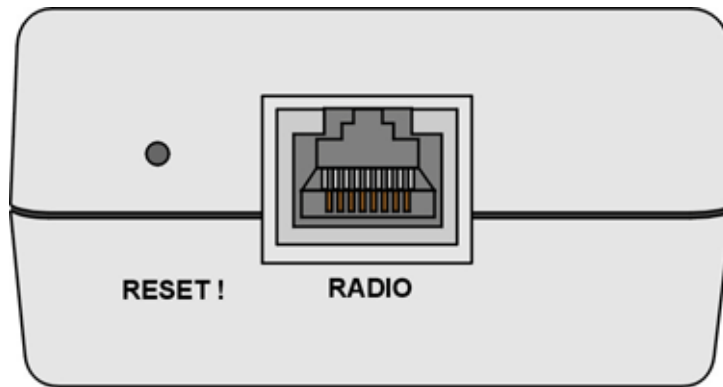

Figure 2-9: CPE-IDU-1D Front Panel
- 2 Connect the IDU-ODU cable to the RADIO connector. The RADIO connector in the CPE-IDU-1D is located on the front panel as shown in Figure 2-9.